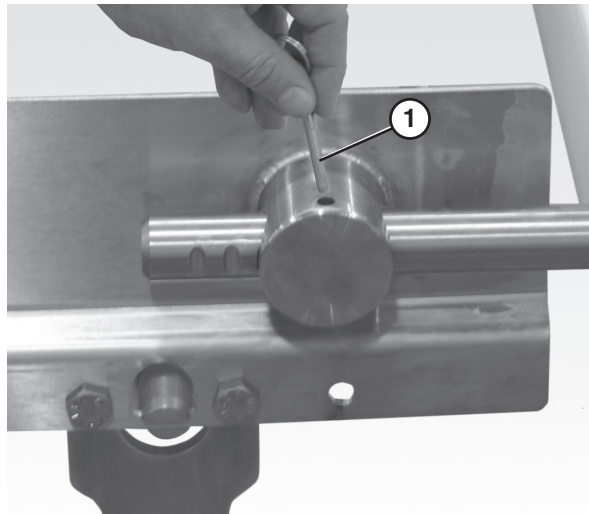

Figure 48
1. Remove the pull pins (Figure 48, item 1) on the tension end of the conveyor to release tension on the belt.